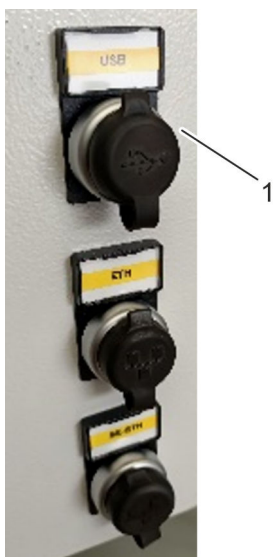

Fig. 77: USB port
1. ➤ Insert the USB memory in the USB port (Fig. 77/1).